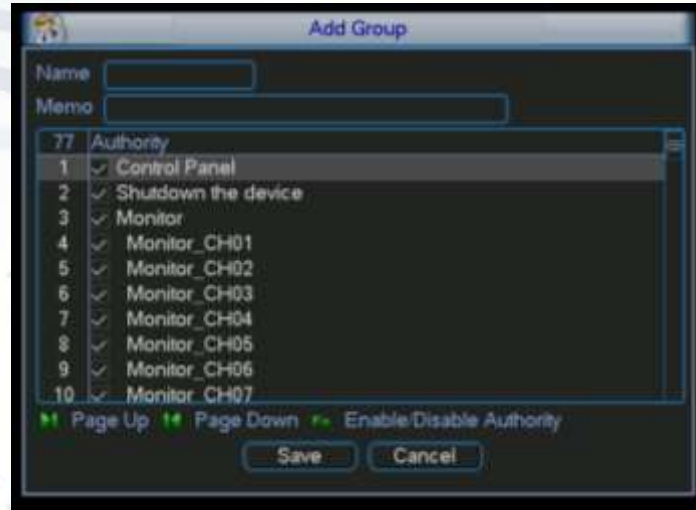

Figure 4-90
- Click add group button, the interface is shown below (see Figure 4-90).
- The modify group interface is similar to the Figure 4-90.